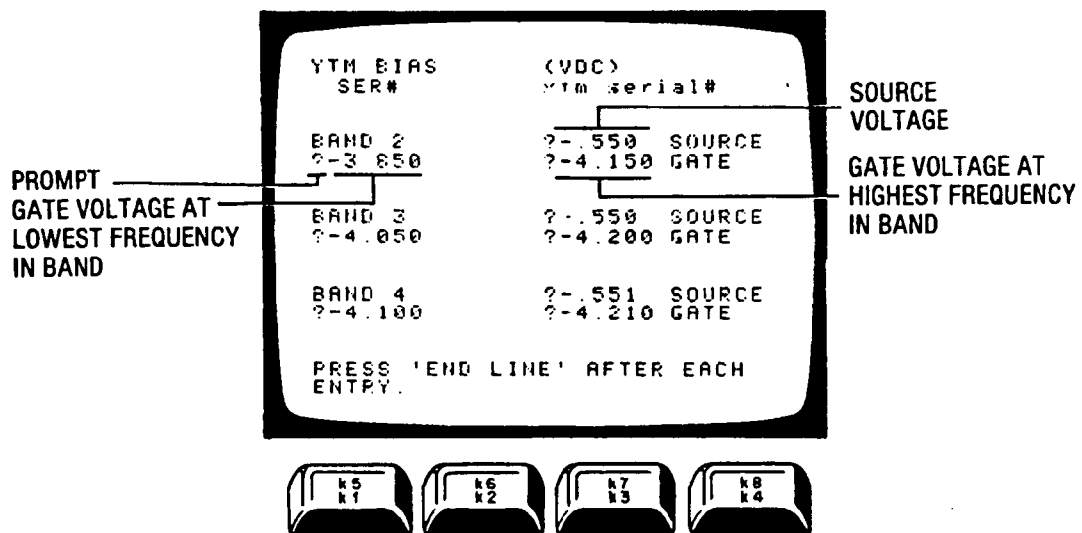

Figure 5-19. Format for Entering SRD Bias Voltages
- a. Source and gate dc bias voltage values are entered into the controller as shown in figure 5-19. The bias voltages are listed on the YTM label located inside the Signal Generator near the A2A5 assembly on the A2 Controller chassis. The question mark (?) is used as a prompt to indicate when and where data should be entered.